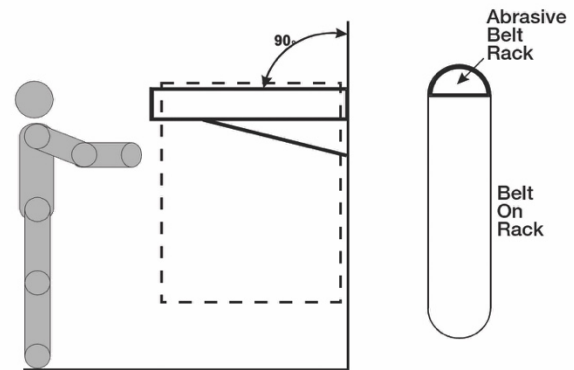

Figure 11-3: Storing Belts
- Store abrasive belts on a rack for best results and longer belt life (see Figure 11-3). Use one rack per abrasive grit grade.